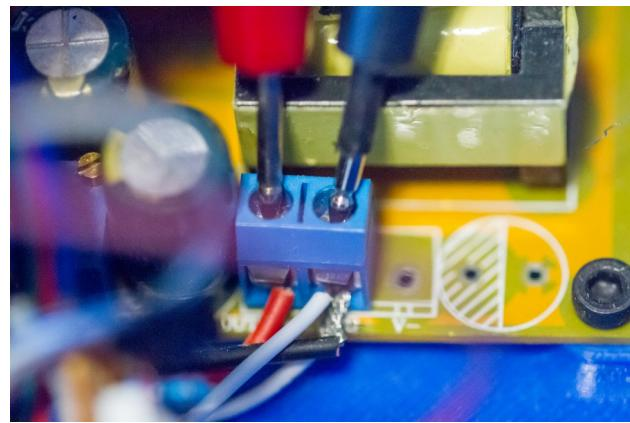

Figure 19: Output voltage from boost converter
38. The high-voltage converter will turn on. **CAREFULLY** measure the output voltage as shown in figure 19 while adjusting the potentiometer on the converter. Adjust the voltage to the desired LED drive voltage (120 V recommended).